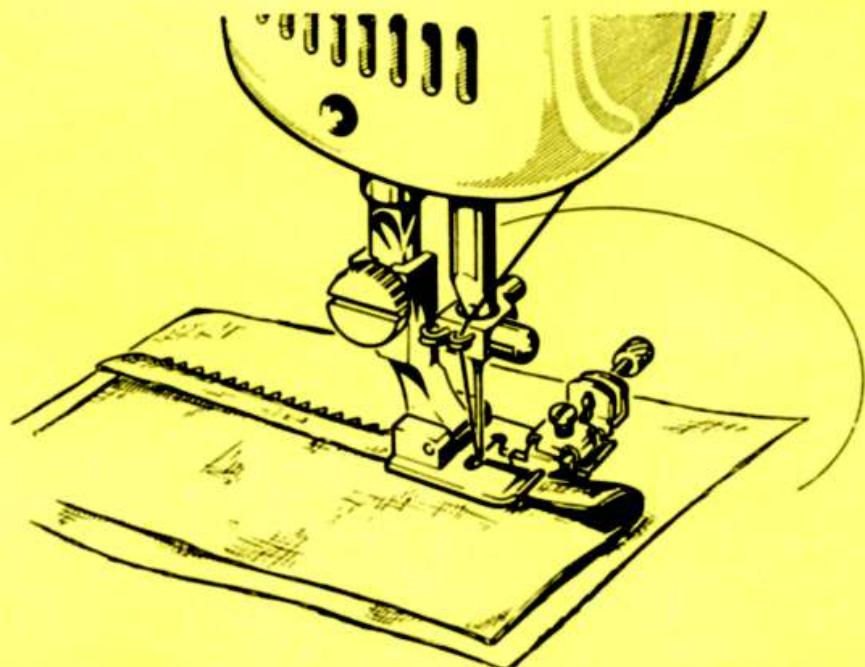

Fig. 25
- 1) Place hem of garment under the Blindstitch Foot (see Fig. 25), then lower the Blindstitch Foot and operate the machine by hand to make sure that the needle just catches the edge of the fold. If needle does not catch edge of fold, move Guide by turning Adjusting Screw away from you.